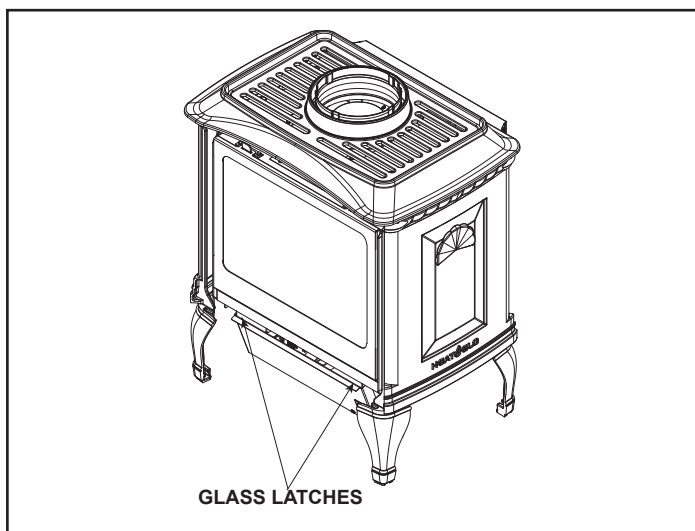

Figure 10.2 Remove Glass Frame
3. Release both glass latches at the lower corners of the appliance. Remove glass from appliance. See Figure 10.2.